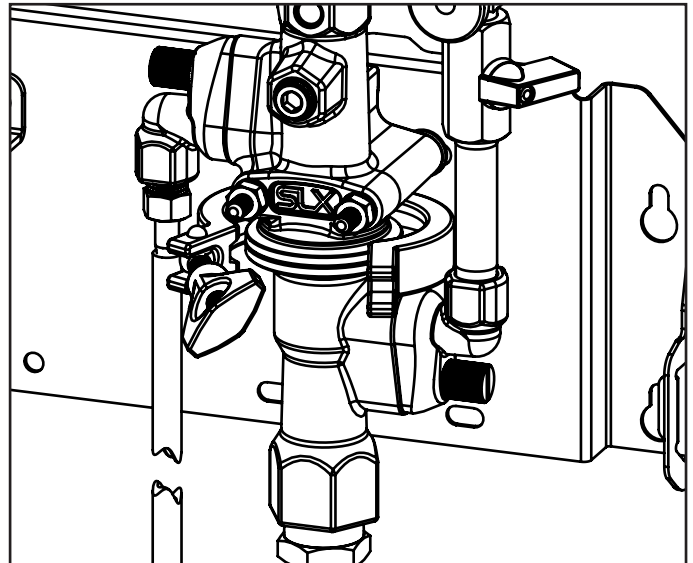

Fig. 8.1: Tri-clamp open
3. Loosen the tri-clamp fitting to disconnect the upper and lower body. [Fig 8.1]